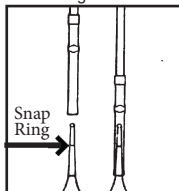

Figure 3
- Slide the open end of the valve assembly over the tapered tip of the Titret so that it fits snugly to the white reference line (fig. 3).